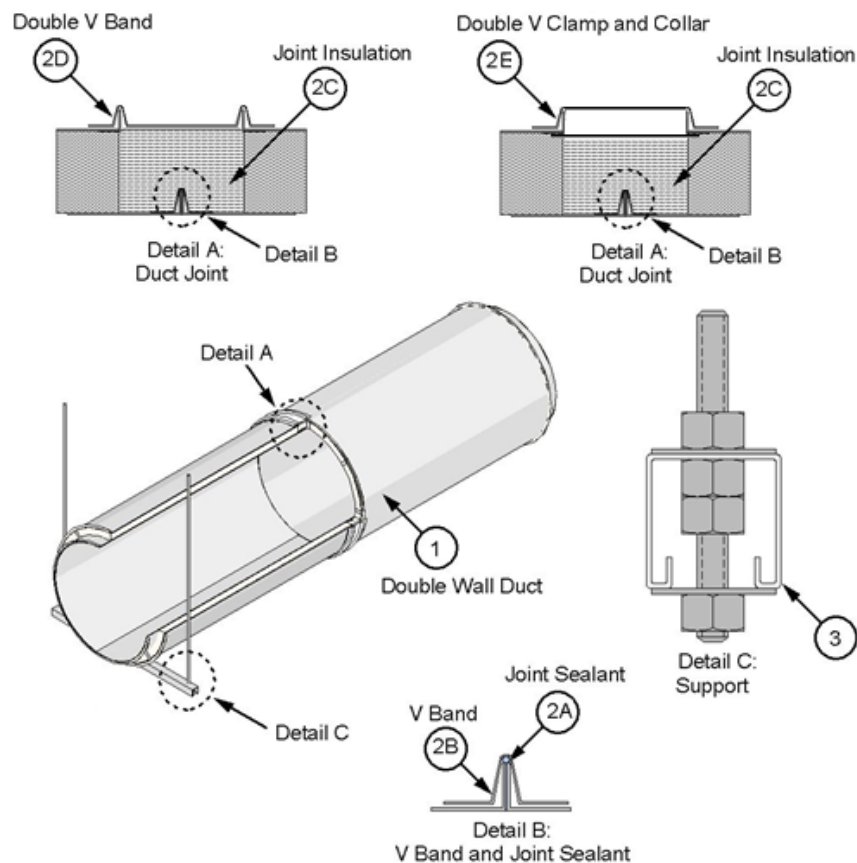

Figure 1. Double Wall Duct and Horizontal Support
- B. **V BAND** – Use the supplied V band (see Figure 1). Place the loose V band, filled with joint sealant (Item 2A), over one of the inner duct flanges. Join to the other inner duct flange with the continuous bead of joint sealant (Item 2A) and rotate slightly to ensure complete coverage of joint sealant (Item 2A) on flanges. Ensure that the flanges are located within the V band and that the V band hardware is not at the bottom side of a horizontal duct. Tap the V band while tightening the integral 1/4-20 hardware to ensure flanges are aligned and pulled together. Tighten to 40-60 in.lbs.
- D. **DOUBLE V BAND** – Use the supplied double V band (see Figure 1) for grease duct diameters ≤ 24 in. Place double V band with the grease duct outer shell flanges seated in the V band; tighten integral 1/4-20 hardware to 40-60 in.lbs.
- E. **DOUBLE V CLAMP AND COLLAR** – Use the supplied double V clamp and collar (see Figure 1) for grease duct diameters > 24 in. Use the sheet metal collar to retain the joint insulation; overlap collar ends and fasten together with min. two min. size #6 sheet metal screws. Place double V clamp with the grease duct outer shell flanges seated within the clamp recess; tighten integral 1/4-20 hardware to 40-60 in.lbs.
and two min. 1/2 in. diameter, threaded steel rods connected using Grade 5 hex nuts and 1/2 in. hardened washers (see Figure 1, Detail C). For grease duct diameters > 24 in., use supplied 12 GA steel saddles fastened to the Unistrut® channels with supplied 5/16-18 hardware. Connect the threaded steel rods to the bottom of the floor assembly using an attachment method designed to carry the weight of the pre-fabricated grease duct (Item 1) under a fire load equivalent to ASTM E 119 time-temperature curve for a 2 hour period. Place one threaded steel rod at each end of the supporting cross-member. Center the pre-fabricated grease duct (Item 1) on the cross-member. Space the threaded steel rods a max. of 8 in. from surface of the pre-fabricated grease duct (Item 1). Cut the cross-members such that each extends a min. 1-1/2 in. past the threaded steel rods. Space horizontal supports a max. of 84 in. on center (oc) for ducts with nominal diameter ≤ 16 in., and a max. of 60 in. oc for nominal 18 in. to 36 in. diameter ducts.